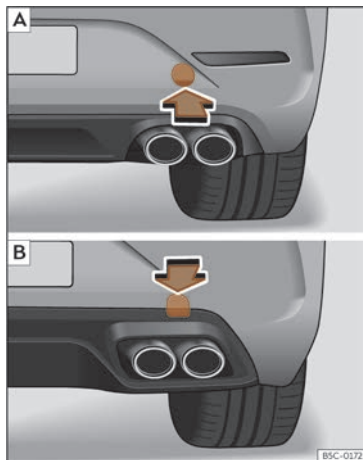

Fig. 208 Rear bumper on right: remove the lid. **A** Leon Sportstourer; **B** Leon.
The housing of the screw towing eye is on the right side of the rear bumper behind a lid >>> **Fig. 208**.
- Leon Sportstourer:** Press the lower side of the lid >>> **Fig. 208 [A]** to unclip it.
- Leon:** Press the upper side of the lid >>> **Fig. 208 [B]** to unclip it.
- Screw the towing eye in the housing by turning it to the maximum **anticlockwise** >>> **Fig. 208** , >>> **Fig. 208**. Use a suitable object that can completely and securely tighten the towing eye in its housing.